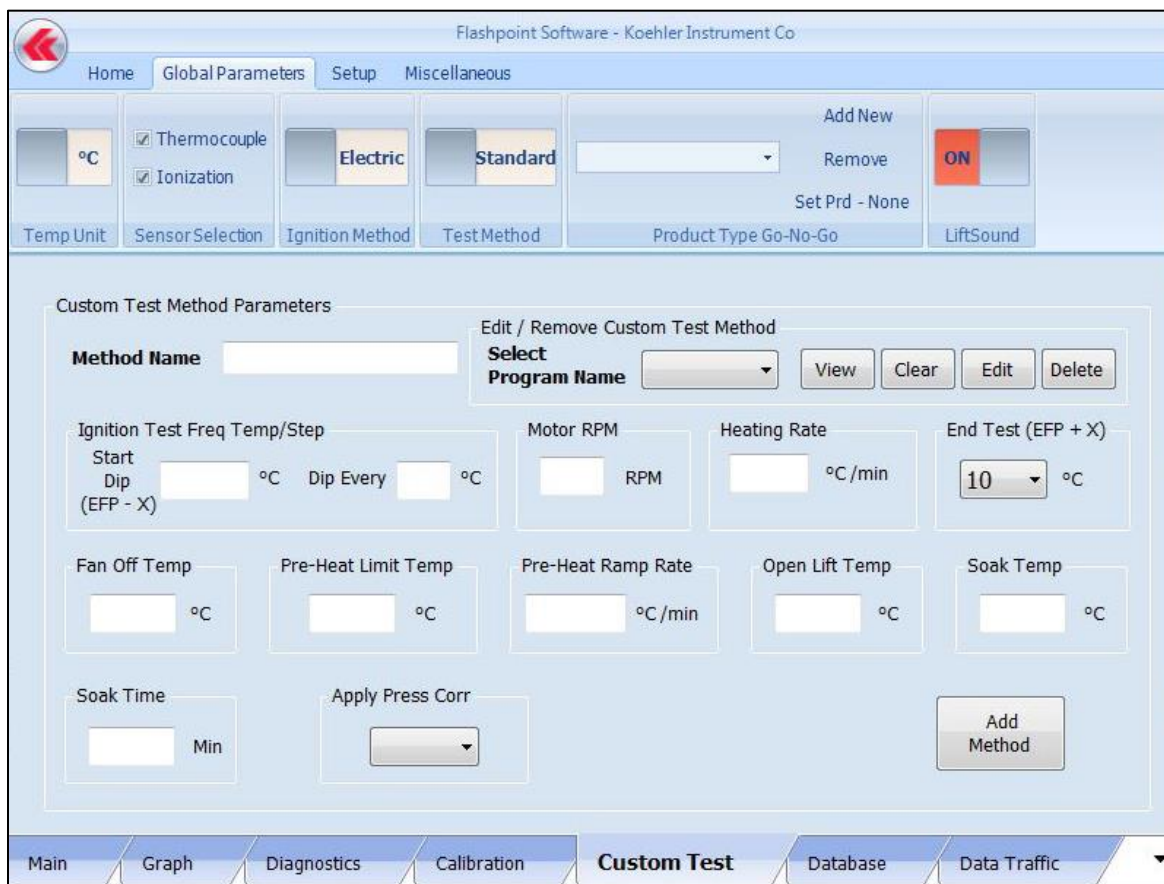

Figure 23: Custom Test Method Screen
**11. Custom Test Screen** - Clicking on the Custom Test Tab located at the Lower Tab Section of the Main Menu will bring up the Custom Test Method Parameters Menu as shown in **Figure 23**: